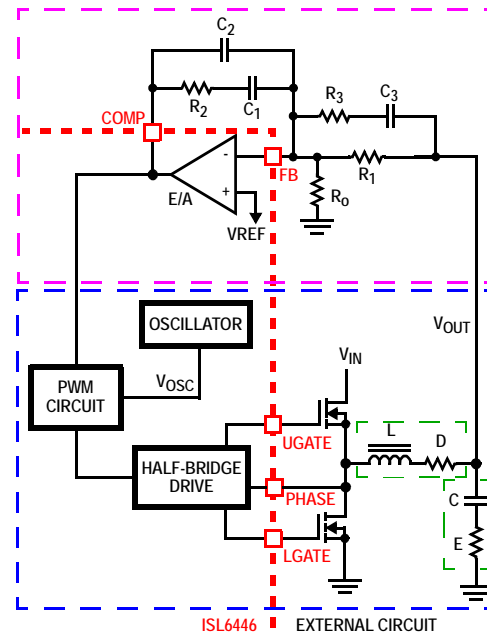

FIGURE 26. VOLTAGE-MODE BUCK CONVERTER COMPENSATION DESIGN
Figure 26 highlights the voltage-mode control loop for a synchronous-rectified buck converter, applicable to the ISL6446 circuit. The output voltage (V_{OUT}) is regulated to the reference voltage, V_{REF} . The error amplifier output (COMP pin voltage) is compared with the oscillator (OSC) modified sawtooth wave to provide a pulse-width modulated wave with an amplitude of V_{IN} at the PHASE node. The PWM wave is smoothed by the output filter (L and C). The output filter capacitor bank’s equivalent series resistance is represented by the series resistor E.
The compensation network consists of the error amplifier (internal to the ISL6446) and the external R_1 through R_3 , C_1 through C_3 components. The goal of the compensation network is to provide a closed loop transfer function with high OdB crossing frequency (F_0 ; typically 0.1 to 0.3 of f_{SW}) and adequate phase margin (better than 45°). Phase margin is the difference between the closed loop phase at F_{0dB} and 180° . The equations that follow relate the compensation network's poles, zeros and gain to the components (R_1 , R_2 , R_3 , C_1 , C_2 , and C_3) in Figure 26. Use the following guidelines for locating the poles and zeros of the compensation network:
1. Select a value for R_1 (1kΩ to 5kΩ, typically). Calculate the value for R_2 for desired converter bandwidth (F_0). If setting the output voltage via an offset resistor connected to the FB pin, R_0 in Figure 26, the design procedure can be followed as presented in Equation 13.